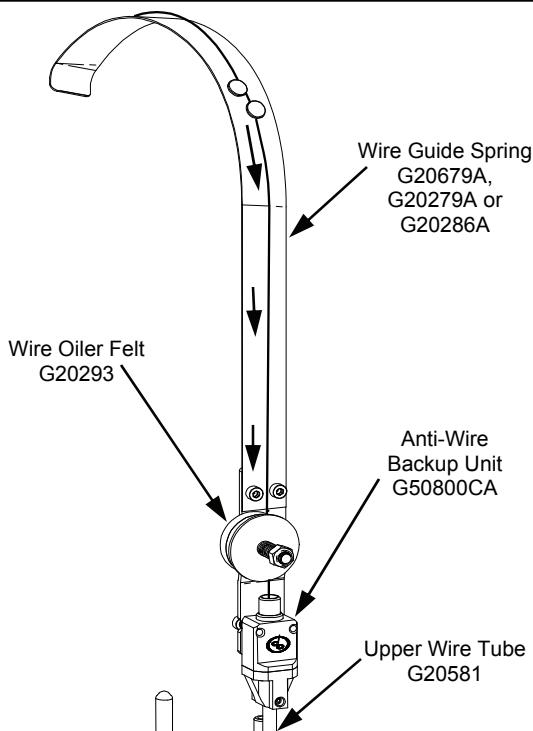

Figure 7 - Threading the Wire Spring
2. Pass the wire from the Spool over the Wire Guide Spring between the Wire Guide Studs and the two (2) Wire Oiler Felts, then into the Anti-Wire Backup Unit and finally into the Upper Wire Tube [Fig. 7].